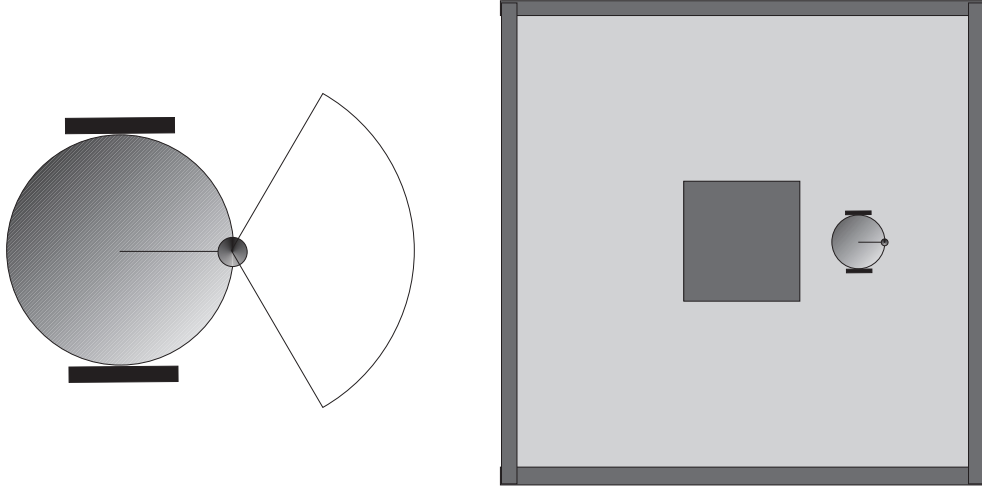

Figure 3: Robot and arena for problem 2.3.
The utility function (UF) method can be used for behavioral organization in autonomous robots. Consider the case of a simple exploration robot, taken as the standard robot in **ARSim** (with $M = 3.0$ kg, radius = 0.20 m etc.), but with a single, wide-angle IR proximity sensor (opening angle $2\pi/3$ radians, range = 0.8 m), located on the edge of the robot's circular body, as shown schematically in the left panel of Fig. 3. Use `nr = 7` rays in the IR sensor.
Find values of the parameters a_0, a_1, a_2, b_0 , and b_1 which will allow the robot to move as far as possible (i.e. to get as high fitness as possible) during a 30 s simulation, without colliding with the walls or the obstacle (collisions should lead to termination of the evaluation) in the arena shown in the right panel of Fig. 3. For full points, the robot should obtain a fitness value of at least 10.0.